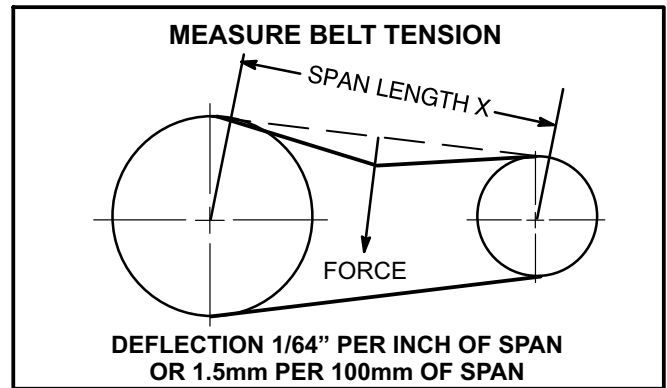

FIGURE 18
- 1- Measure span length X. See figure 18.
- 2- Apply perpendicular force to center of span (X) with enough pressure to deflect belt 1/64" for every inch of span length or 1.5mm per 100mm of span length.